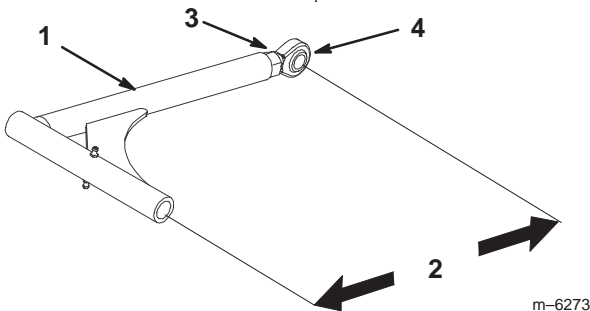

Figure 69
- If the fixed idler contacts the end of the adjustment slot and more belt tension is required, a small change to lengthen the push arms can be made (Fig. 69).